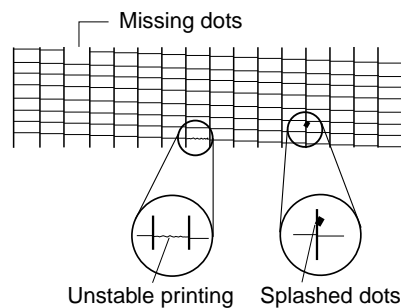

Figure 4-7 Defective Pattern (Sample)
- (1) Check that the orange cap or tape is not on the BJ cartridge.
- (2) Carry out nozzle cleaning on the BJ cartridge five times with the cleaning operation, than visually check the test print for non-discharge of ink from nozzle. (Fig. 4-7)
- (3) Remove and reinstall the BJ cartridge.
- (4) Replace the appropriate ink tank.
- (5) Replace the BJ cartridge.
- (6) Replace the purge unit.
- (1) Carry out nozzle cleaning on the BJ cartridge five times with the cleaning operation, than visually check the test print for non-discharge of ink from nozzle. (Fig. 4-7)
- (2) Remove and reinstall the BJ cartridge.
- (3) Replace the appropriate ink tank.
- (4) Replace the BJ cartridge.
- (5) Check the connection of the carriage ribbon cable and the PCNT board. (J1/J2/J3)
- (6) Replace the carriage unit.
- (7) Replace the PCNT board.
- (8) Replace the purge unit.